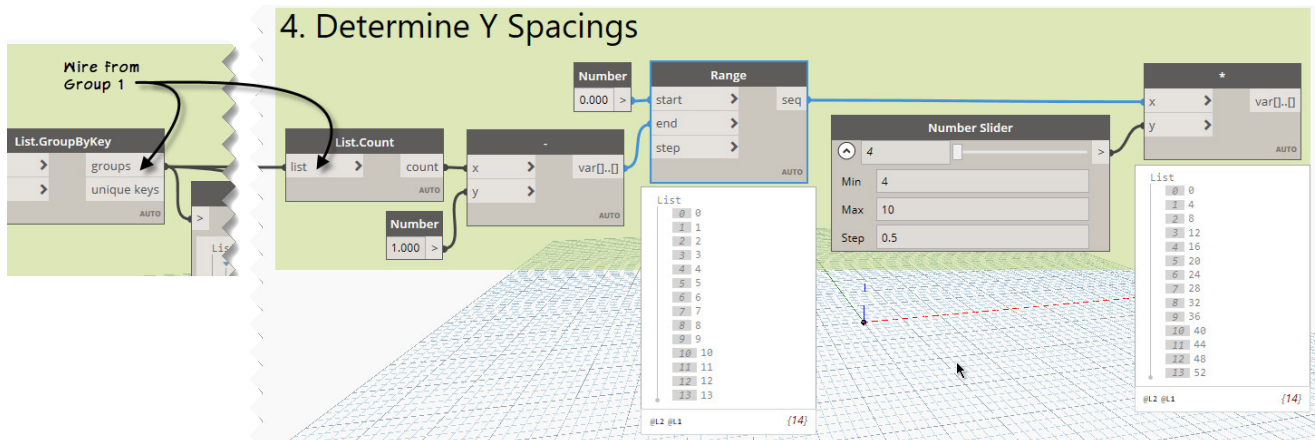

FIGURE 56
38. Run the graph (see Figure 56).